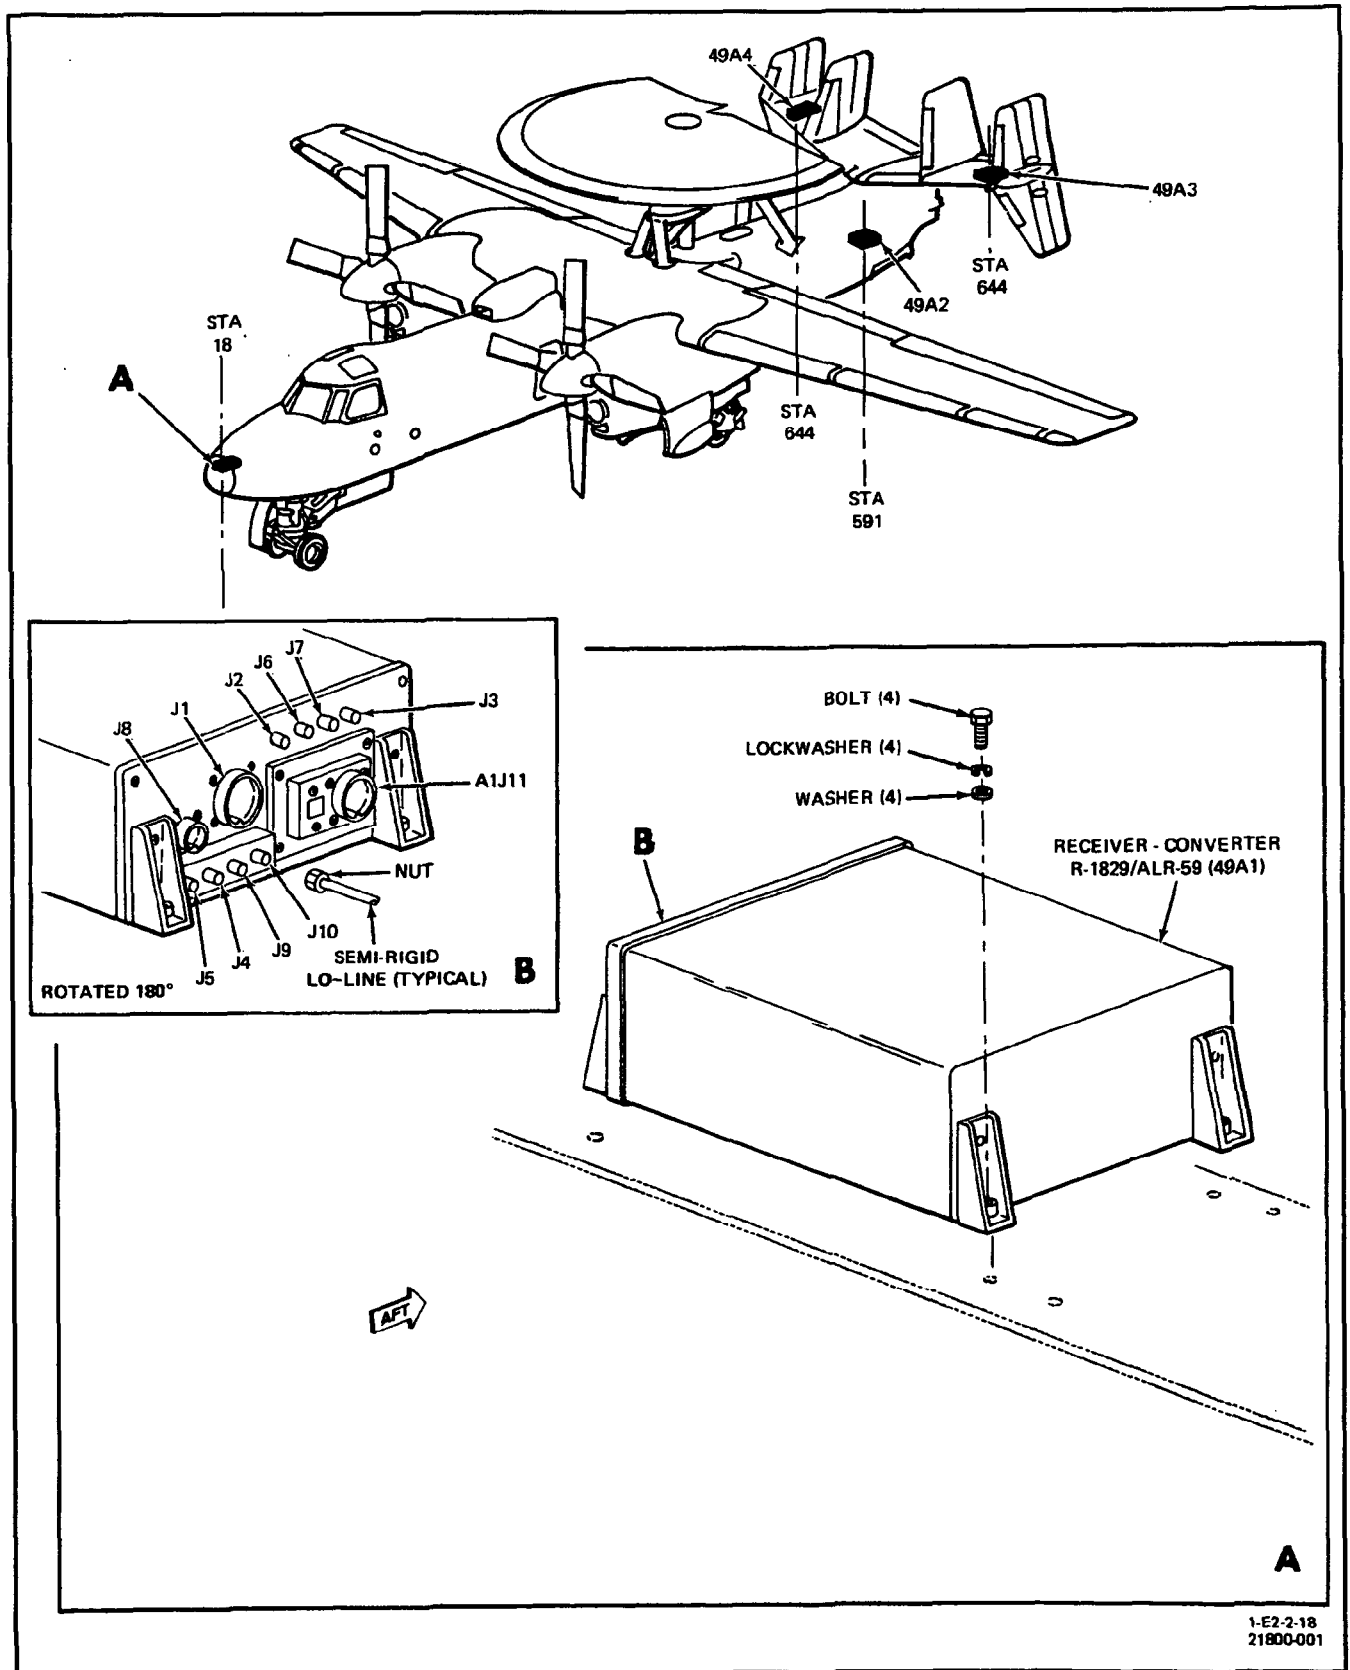

Figure 1. Removal and Installation of Receiver-Converter R-1829/ALR-59
4. **INSTALLATION.** (See figure 1.)